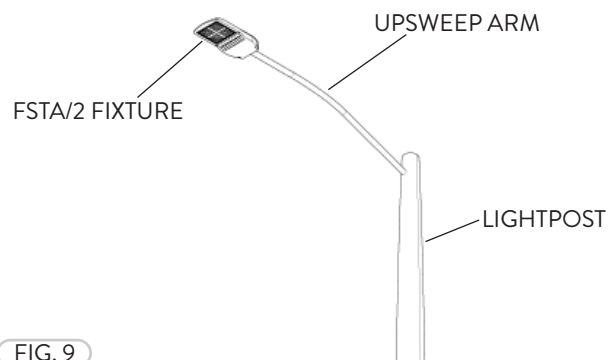

FIG. 9
- 5 The FSTA/2 fixture in a typical setting with a Light Post and a Roadway Upsweep Arm (Fig. 9).